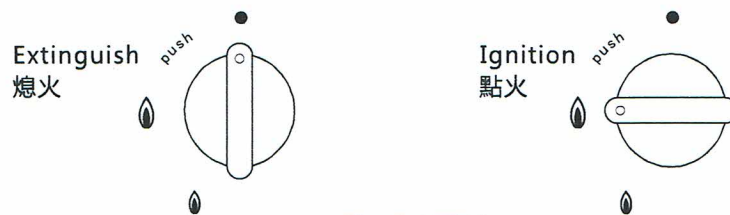

Fig.5 (圖5)
4. Flame can be adjusted between "ON" and "OFF". Please adjust flame slowly.(Fig.5)